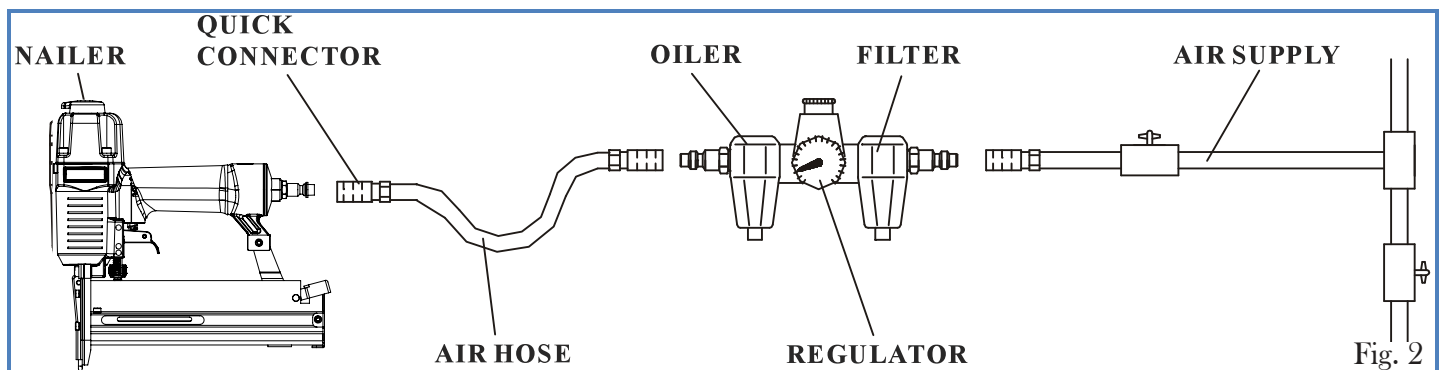

Fig. 2
CONNECTING THE TOOL TO AN AIR SUPPLY (Fig. 2)
Your tool should be connected to a properly installed compressed air supply. The working pressure of the air compressor must be regulated by a regulator to fit the operating pressure of your nailer (60-100 PSI). Refer to the diagram on the bottom (Fig. 2) for the recommended accessories and connection order.
1. Turn on the compressor on and set the regulator (Fig. 2 - Regulator) to the proper pressure within 60 to 100 PSI. The pressure can be adjusted later depending on firing depth, the length of nails and the hardness of the workpiece.